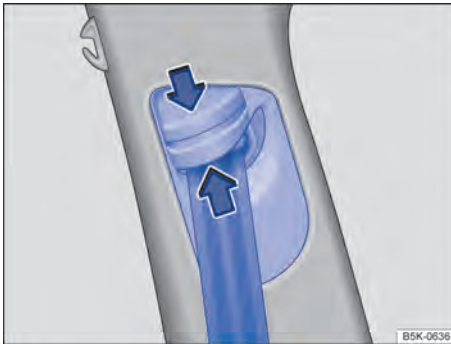

Fig. 33 Next to the front seats: seat belt height adjuster.
- Press and hold the shoulder belt guide as indicated by the arrows → Fig. 33.